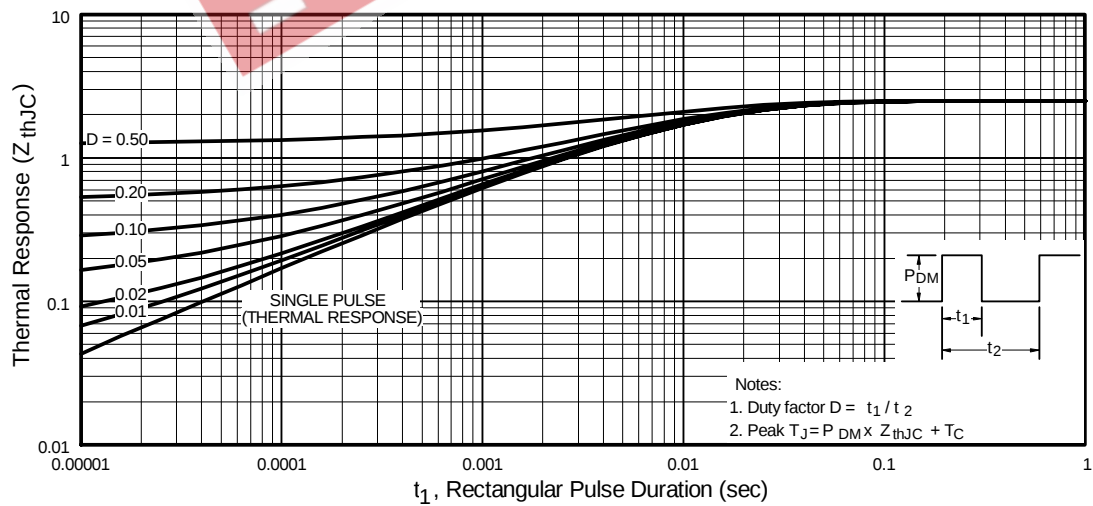

Fig 11. Maximum Effective Transient Thermal Impedance, Junction-to-Case
- ① Repetitive rating; pulse width limited by max. junction temperature. (See fig. 11)
- ② Starting T_J = 25°C, L = 27mH